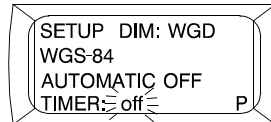

Figure 18. Timer Off Display
5. Press the up arrow key (figure 1, item 2) or down arrow key (figure 1, item 3) until off is flashing for TIMER (figure 18).